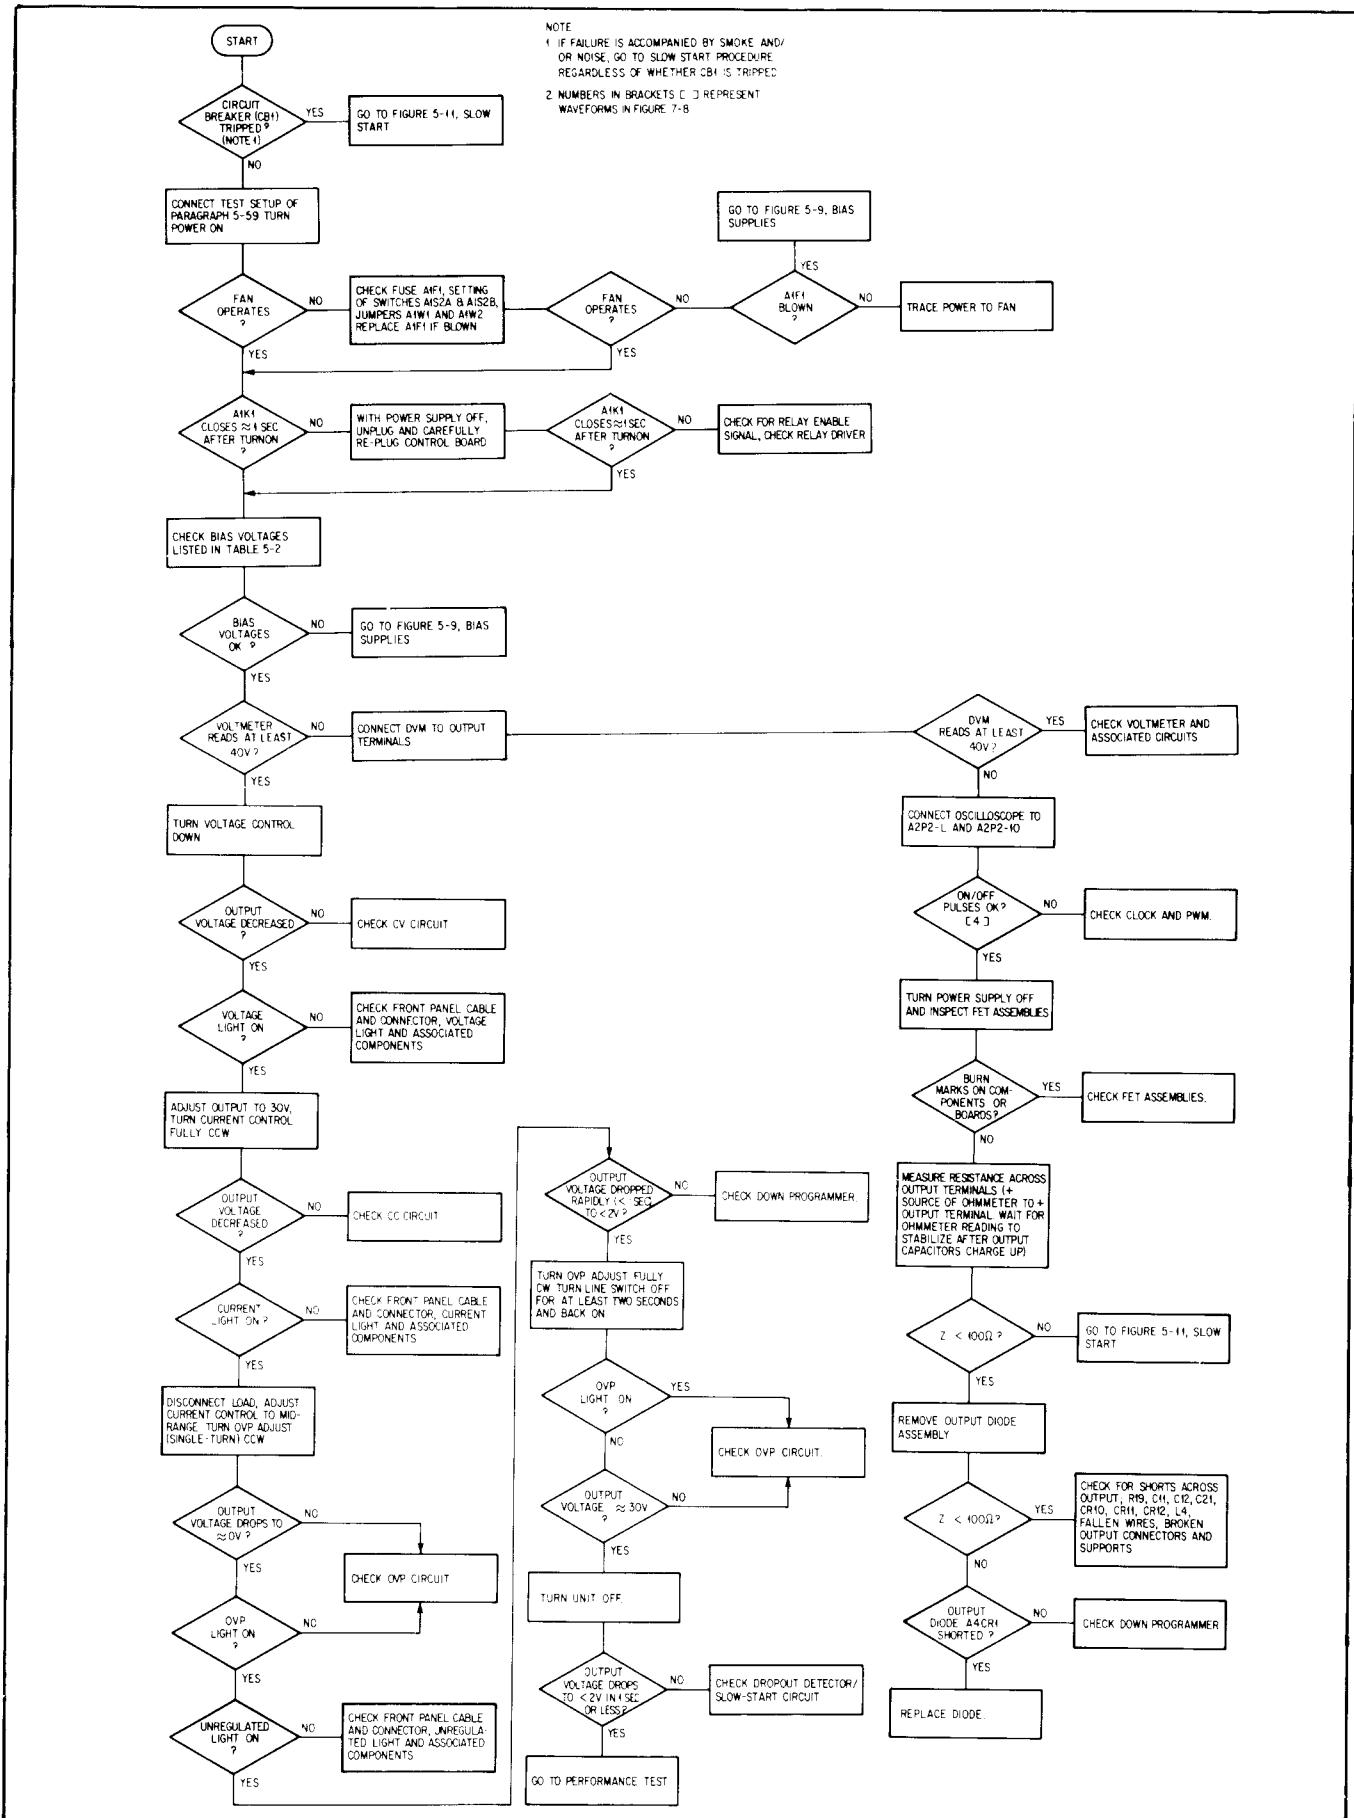
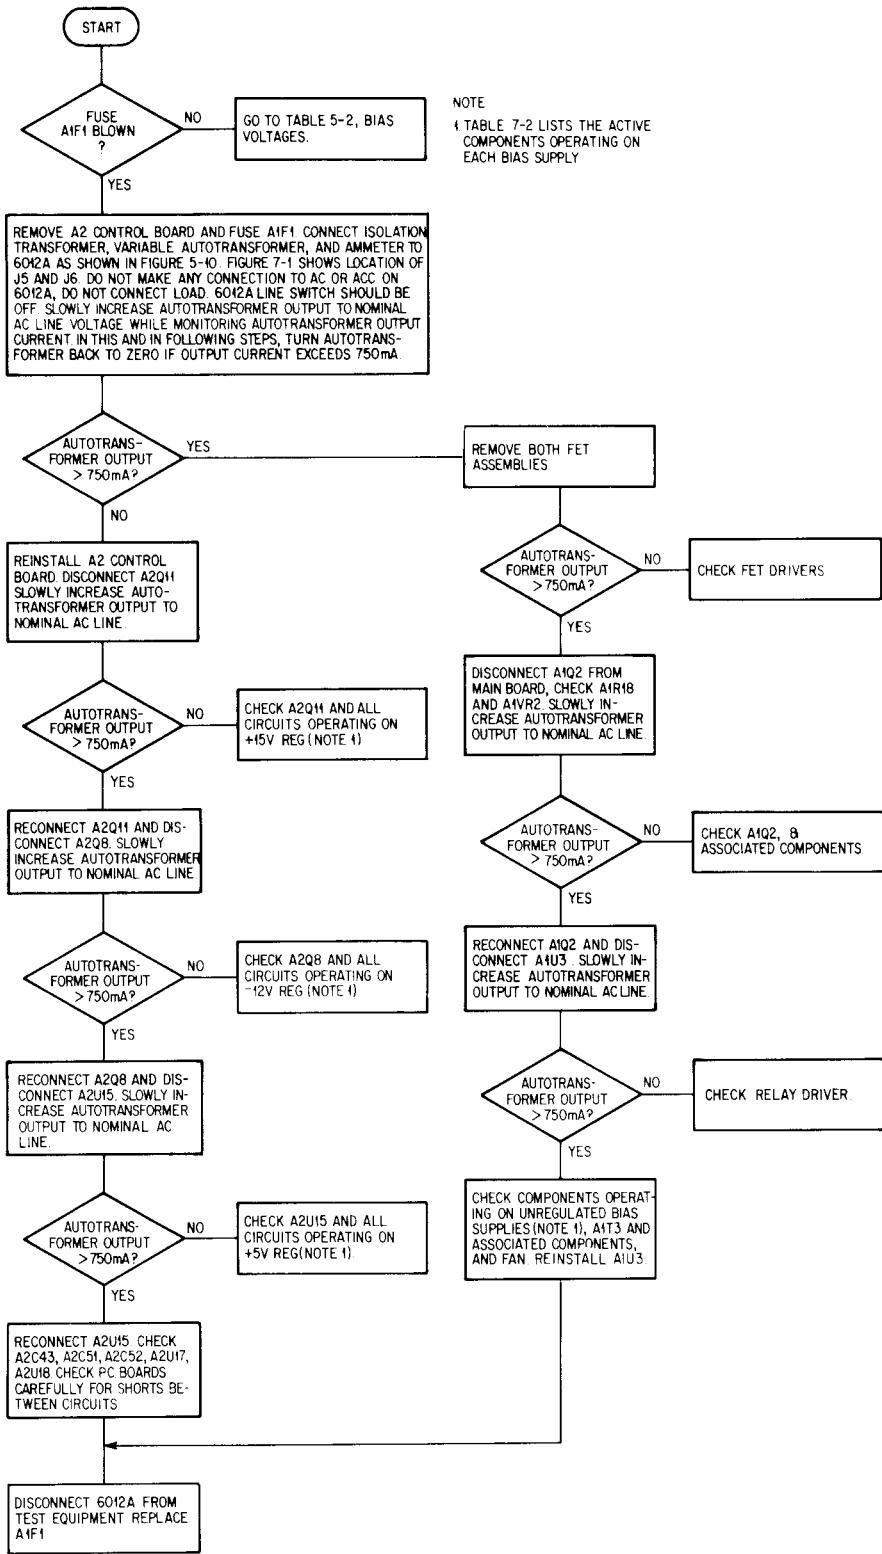
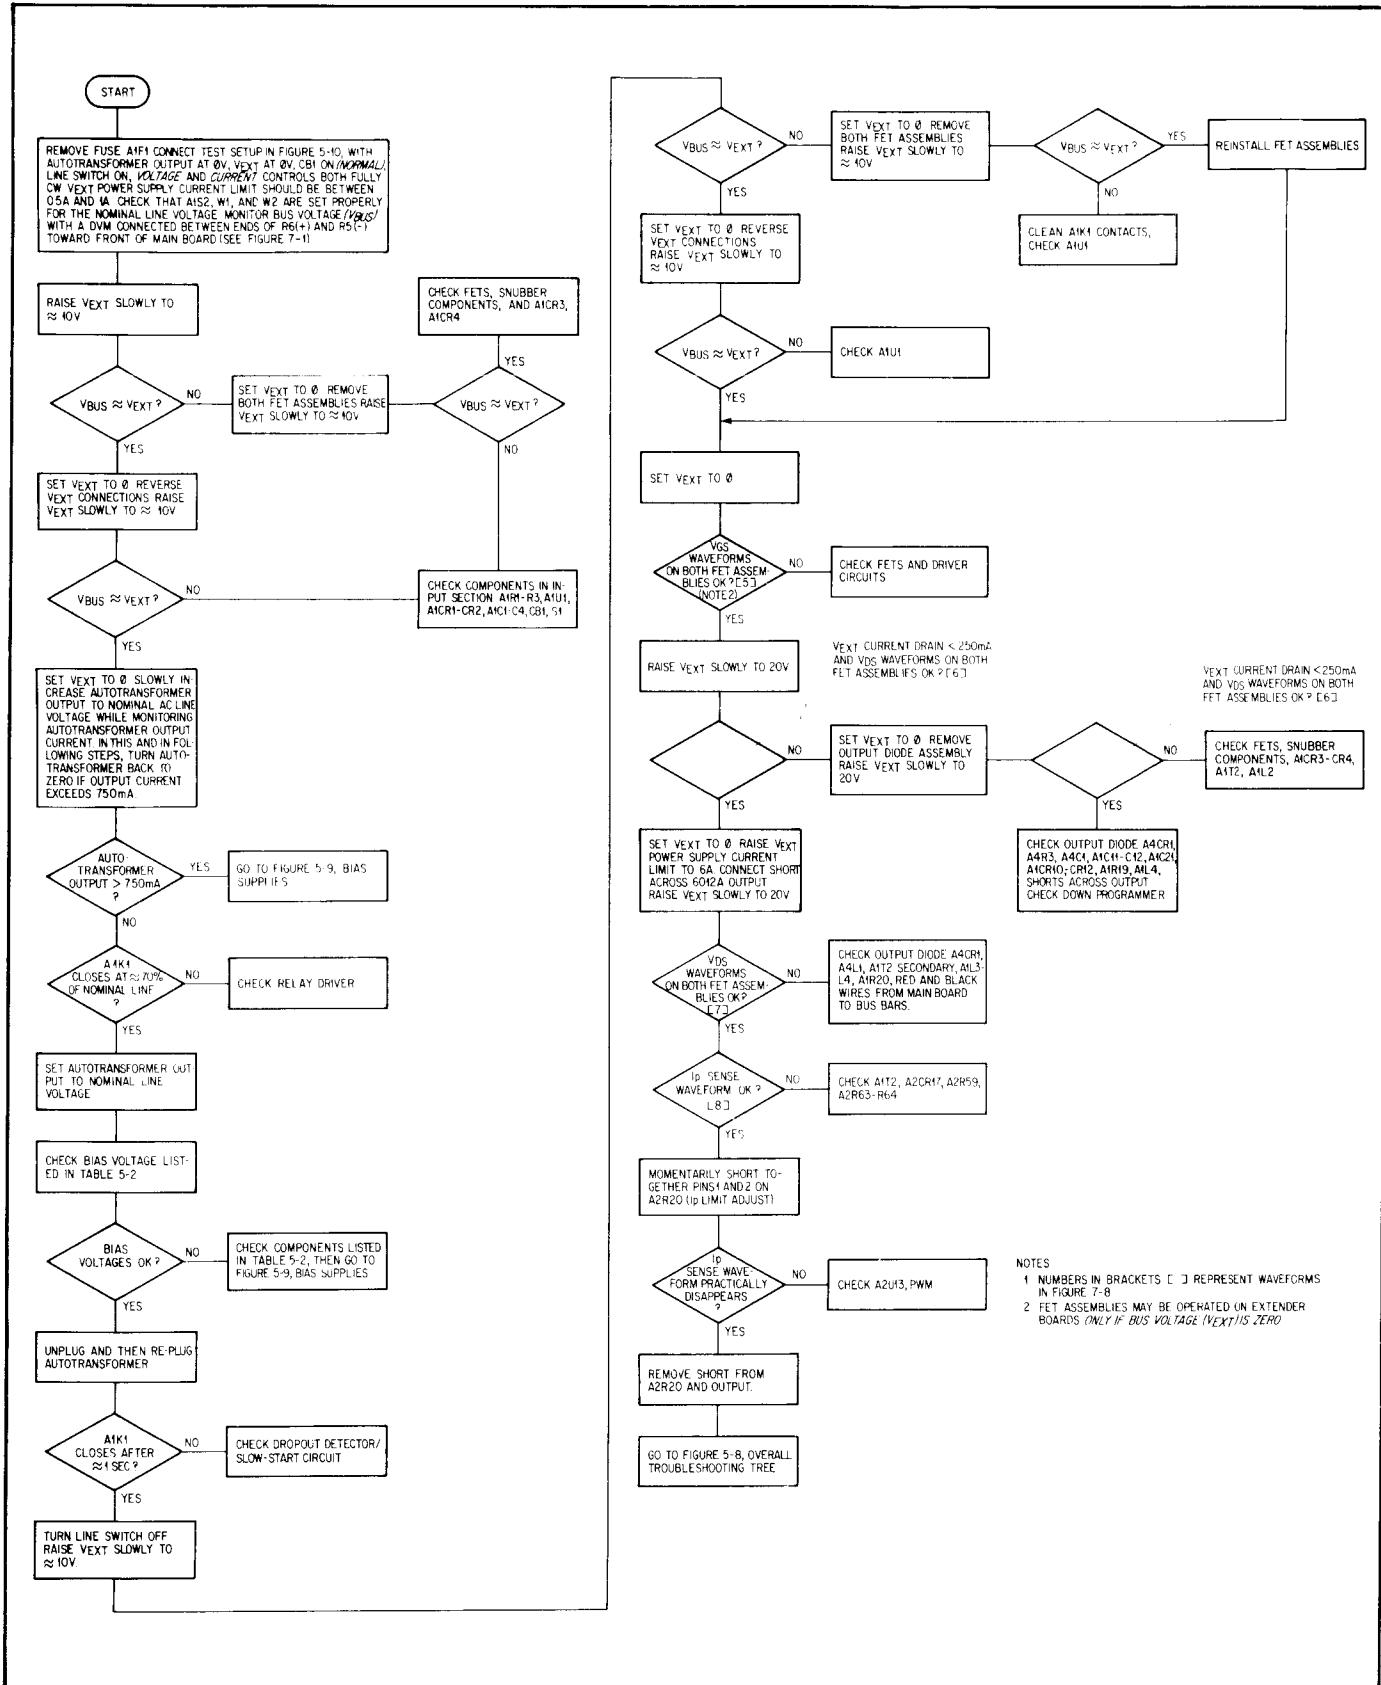

Figure 5-8. Overall Troubleshooting Tree.
Figure 5-9. Troubleshooting Bias Supplies
Figure 5-11. Slow Start Procedure
- Check that input power is available, and check the power cord and rear-panel circuit breaker. If breaker trips while power is on, or if breaker is found to be tripped at any time for unknown reasons, refer to Figure 5-11, Slow Start Procedure.
5-61 Once the test setup is arranged, proceed to the overall troubleshooting tree in Figure 5-8. This tree will isolate trouble to a particular circuit. Table 5-3 provides information that the user who understands the operation of the circuit as described in Section IV can use with standard troubleshooting procedures to locate the trouble.
<p>After using the overall troubleshooting tree (Figure 5-8), bias supplies troubleshooting tree (Figure 5-9), and slow-start procedure (Figure 5-11) to isolate a fault to a particular circuit, use the following guidelines with the schematic and standard troubleshooting techniques to locate the fault.</p>